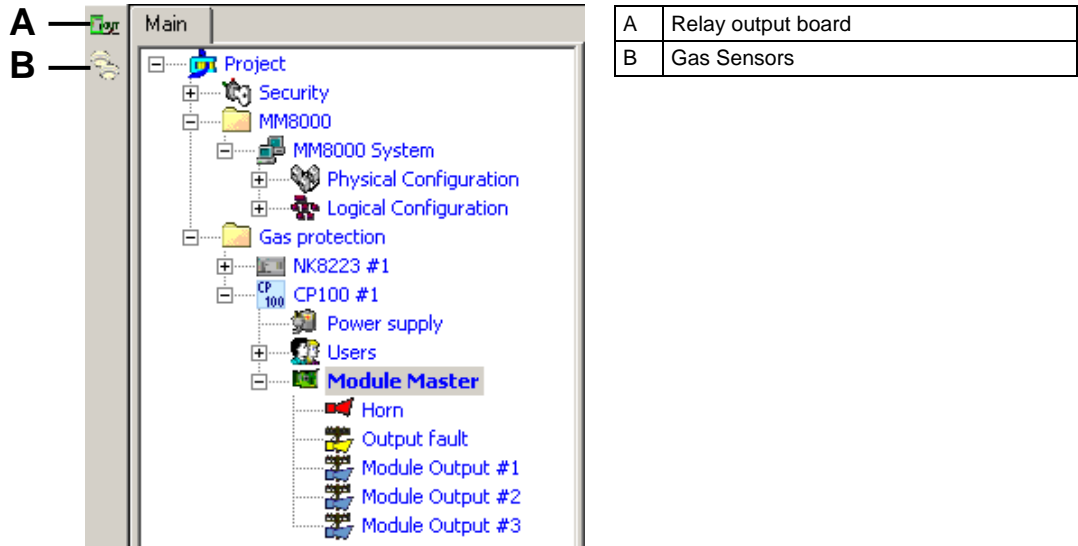

Fig. 14 Adding objects to a module
3. Move the mouse on the icons and, using the tooltip text, locate the object you want to add. See Fig. 14.